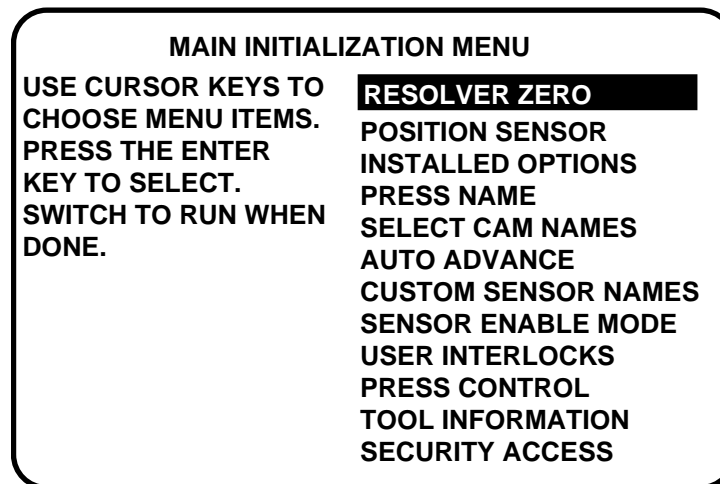

Figure 4-1. SmartPAC Initialization menu
1. Select "Press Control" from the Initialization menu (Figure 4-1). The WPC Initialization menu appears: